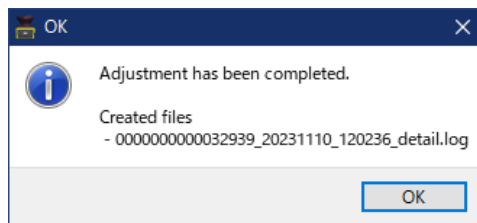

Figure 8-3 Adjustment completed display
- d) When the adjustment is complete, dialog box as shown in Figure 8-3 will appear. Click the OK button. USB will be disconnected automatically and UAM will switch to normal operation. Retry the adjustment after checking the optical window and USB connection if an error occurs during the process. If adjustment fails even after repeated trial contact the nearest distributor or sales representative for support. Send the log file and calibration data file for investigating the cause of failure in such case.